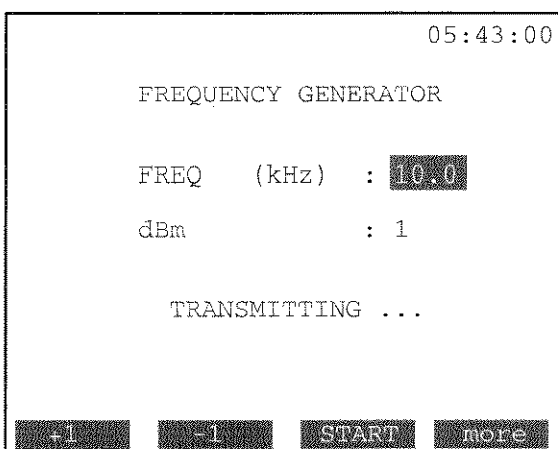

Figure 6-9 Frequency Generator
- 4) The screen is shown in Figure 6-9.